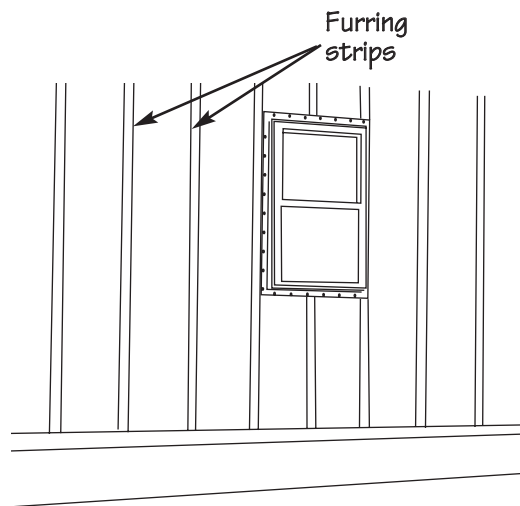

Figure 25.
- Check all walls for evenness and install furring strips where necessary. When installing furring strips, please take appropriate measures to establish a smooth and continuous surface. (Fig. 25).